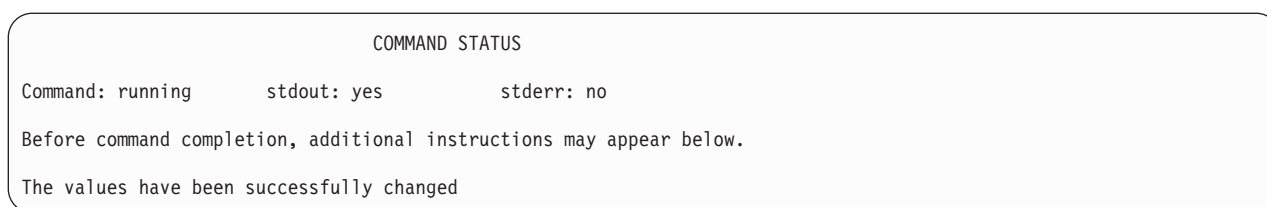

Figure 2-136. *COMMAND STATUS* Screen – *Running*
8. At Figure 2-135, press **Enter**. A COMMAND STATUS screen (Figure 2-136 on page 2-96) displays showing that a command is running.
9. The Command Status screen (Figure 2-136) displays for as long as five minutes. It is normal for there to be no response for this period of time. **DO NOT press any keys** while the command is running.